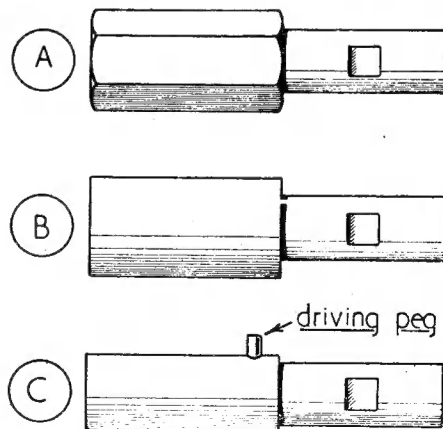

Fig. 3. Three patterns of stub-mandrels
To ensure that the finished pulley runs truly in relation to its bore, it is mounted on a stub-mandrel, machined in place when gripped in either the four-jaw or the self-centring chuck. Later, when machining the pulley groove, the mandrel will be liable to turn under the pressure of the cut, and many chucks must have been damaged by over-tightening the jaws in an attempt to stop slipping in these circumstances. Some ways of overcoming this difficulty are illustrated in Fig. 3. If hexagonal material is used for making the mandrel (A), a three-jaw chuck will give a secure hold; the grip of the jaws can be increased by using material of large diameter (B); a driving peg or screw can be fitted to bear against one of the chuck jaws (C). Whatever method is used, mark the shank opposite to No. 1 chuck jaw before machining the end to fit the pulley bore. To secure the pulley in place on the mandrel, drill and tap a radial hole in the